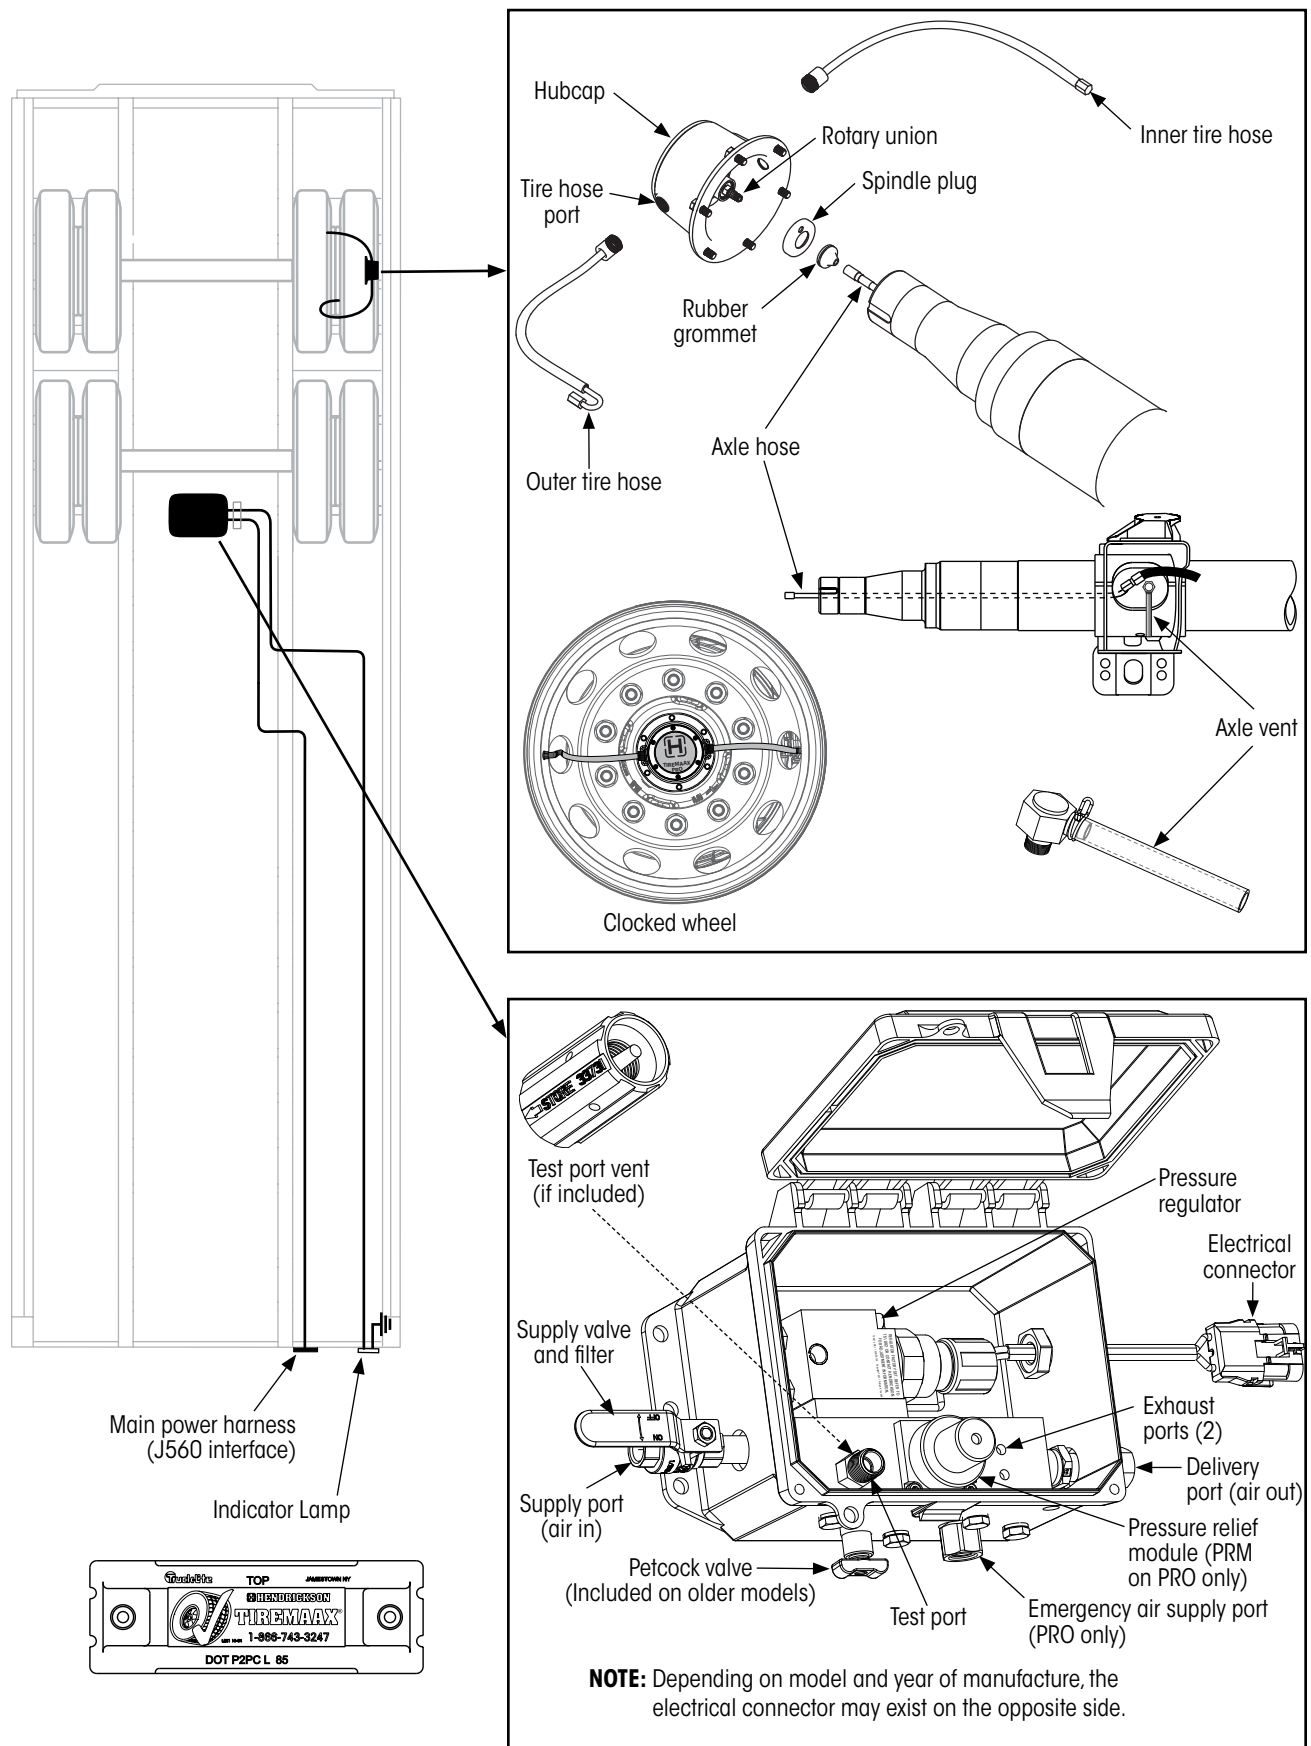

Figure 1: TIREMAAX® components (PRO controller shown)
This section includes a brief overview of TIREMAAX® PRO and CP components. Refer to Figure 1 on previous page.
- If the indicator lamp (Figure 1) remains illuminated for more than 10 minutes as the system is attempting to inflate the tires but may not be able to adequately maintain proper tire pressure.